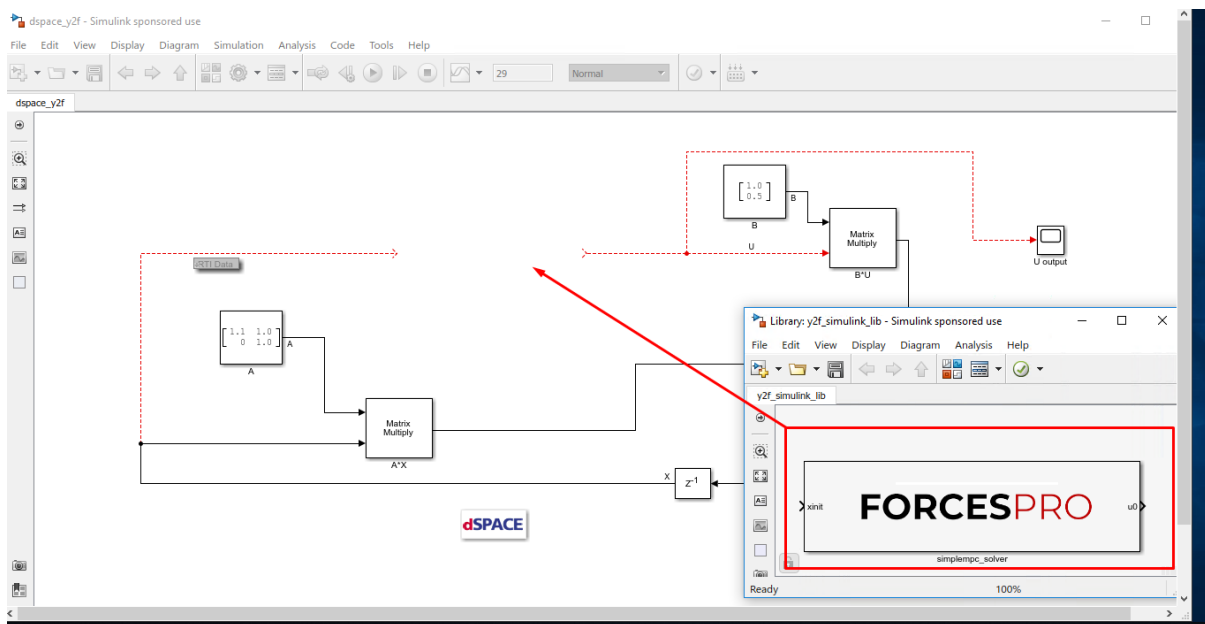

Figure 12.47: Copy-paste and connect the FORCESPRO block.
5. (Figure 12.47) Copy-paste the FORCESPRO Simulink block, contained in the created `y2f_simulink_lib.slx` Simulink model file, into your simulation model and connect its inputs and outputs appropriately.